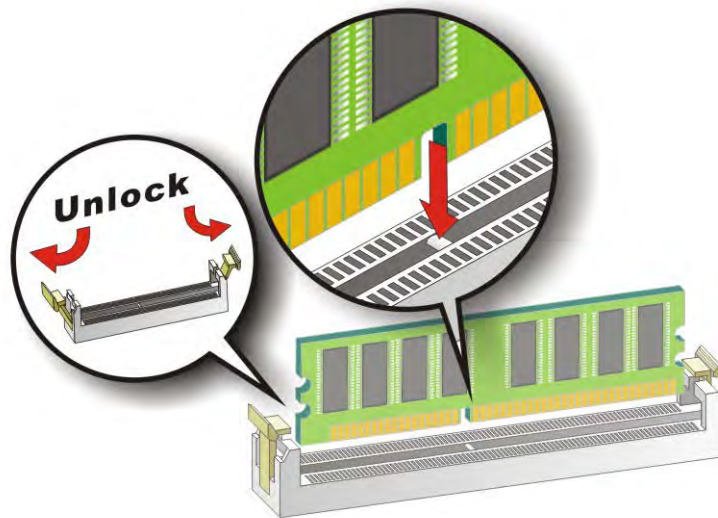

Figure 4-7: DIMM Installation
To install a DIMM, please follow the steps below and refer to **Figure 4-7**.
Step 1: **Open the DIMM socket handles.** Open the two handles outwards as far as they can. See **Figure 4-7**.
Step 2: **Align the DIMM with the socket.** Align the DIMM so the notch on the memory lines up with the notch on the memory socket. See **Figure 4-7**.
Step 3: **Insert the DIMM.** Once aligned, press down until the DIMM is properly seated. Clip the two handles into place. See **Figure 4-7**.